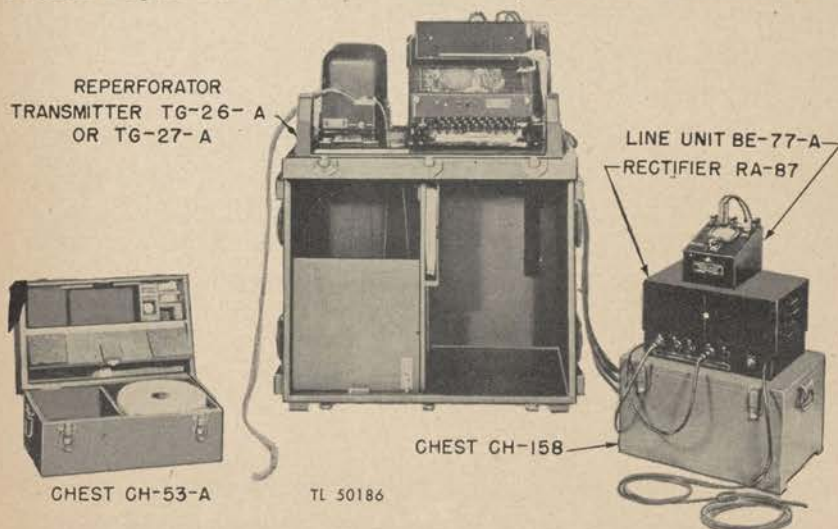

Figure 1. Reperforator Teletypewriter Set TC-16 or TC-17 prepared for operation.
1. GENERAL. a. Description. Reperforator Teletypewriter Sets TC-16 and TC-17 provide complete portable sending and receiving teletypewriter stations for field use (fig. 1). These sets consist essentially of a typing reperforator, a keyboard, and a transmitter-distributor, which are adapted for use on 60-milliampere neutral-type networks or for point-to-point communication. Facilities are provided for operating either of the sets in conjunction with one or two Telegraph Printer Sets EE-97 or EE-98, or Teletypewriter Sets EE-97-A, EE-98-A, or EE-102. They can be used in the standard manner with Telegraph Central Office Set TC-3 (TM 11-358). Except for differences in the reperforator keyboard and type symbols discussed below, Reperforator Teletypewriter Sets TC-16 and TC-17 are the same. Their major components are interchangeable. Major components and their approximate weights and dimensions are listed in paragraph 2. A reference list of components and their corresponding stock numbers is given in paragraph 20. Official nomenclature followed by (&) is used to indicate any item of equipment regardless of its model or procurement. Thus Reperforator Transmitter TG-26-(&) is used to refer to all such transmitters regardless of model letter.
7. MISCELLANEOUS COMPONENTS. Two Ground Rods GP-29 (fig. 11) are carried separately. Supplies and accessories include rolls of reperforator tape, inking ribbons, fuses, power extension cords, and a 3-way power plug. All are packed in Chest CH-53-A with the line unit (fig. 1). See section V for a detailed list of component parts.